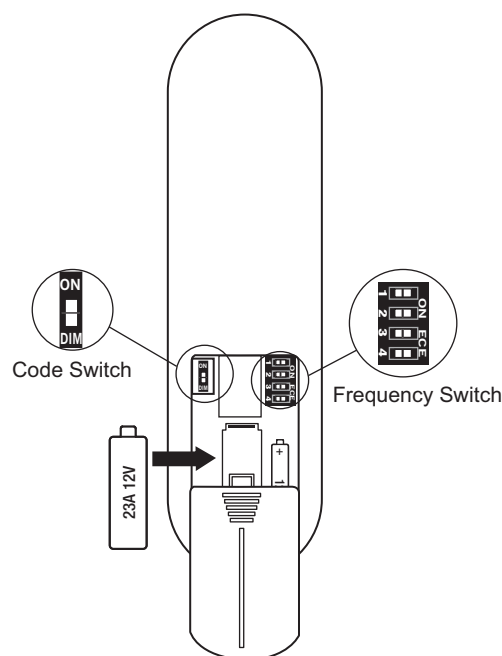

Figure 13
Insert the 23A/12V battery (included) and make sure they are seated correctly in recess. (Fig. 13)
The remote control unit has frequency settings that can be changed. The frequency settings on the remote control should only be changed if your fan experiences interference or if a second or more fans with the same type of control system are installed in the same structure. (Fig. 13)
**ON/DIM Switch:** The ON position is to be used for a light kit with CFL bulbs, the DIM position is to be used for all other dimmable style bulbs. (Fig. 13)